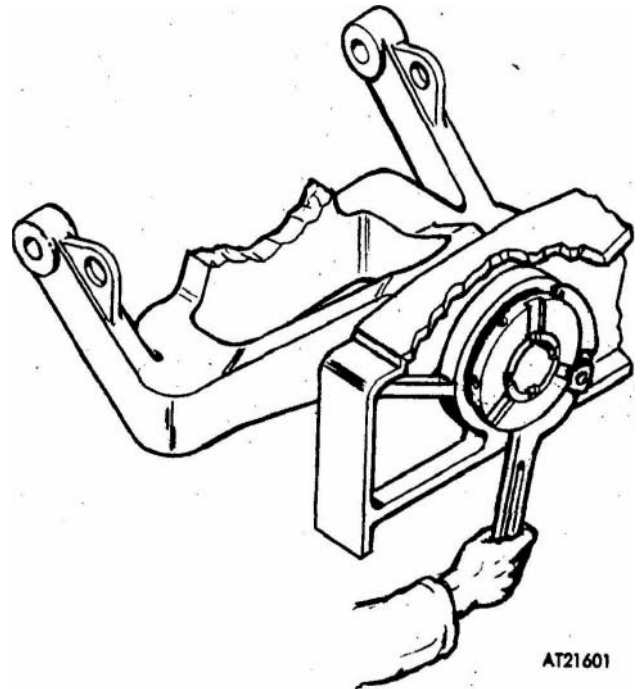

Figure 3-228. Tightening rear bearing nut.
(7) Connect bearing nut (12) to yoke (7) and tighten nut with spanner wrench (11602326) until serrations are fully engaged. Continue tightening nut until a slot in nut is in alignment with a slot in yoke (fig 3-228).